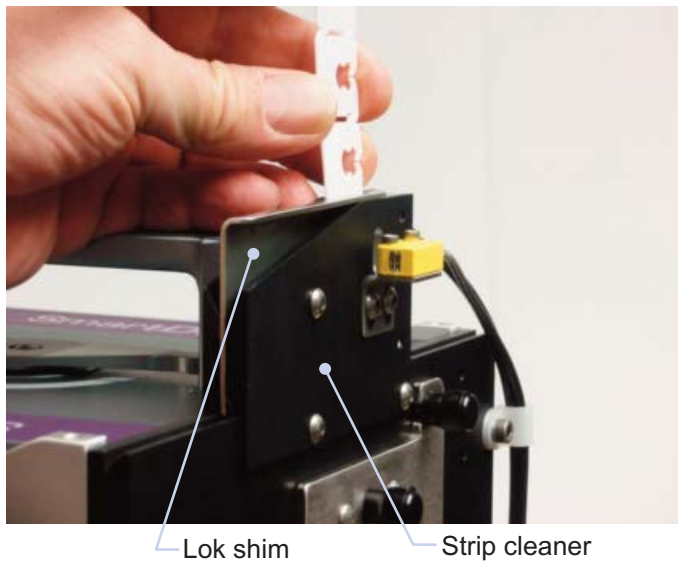

Figure 3.2
C. LOADING THE CLOSURES: Figures 3.2 and 3.3
3. Insert the end of the new closure strip into the strip cleaner (Figure 3.2) and slide it through the printer until the closure strip stops at the bottom of the lok track against the breakoff lever.